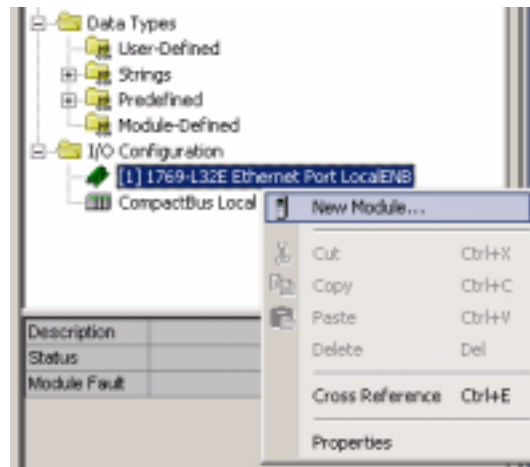

Figure 6.3 Adding a SD17060E
- 1) As shown in figure 6.3 on the right, the Ethernet port will be listed under the I/O Configuration tree. Right click on the port and then click on “New Module...” in the pop-up menu.